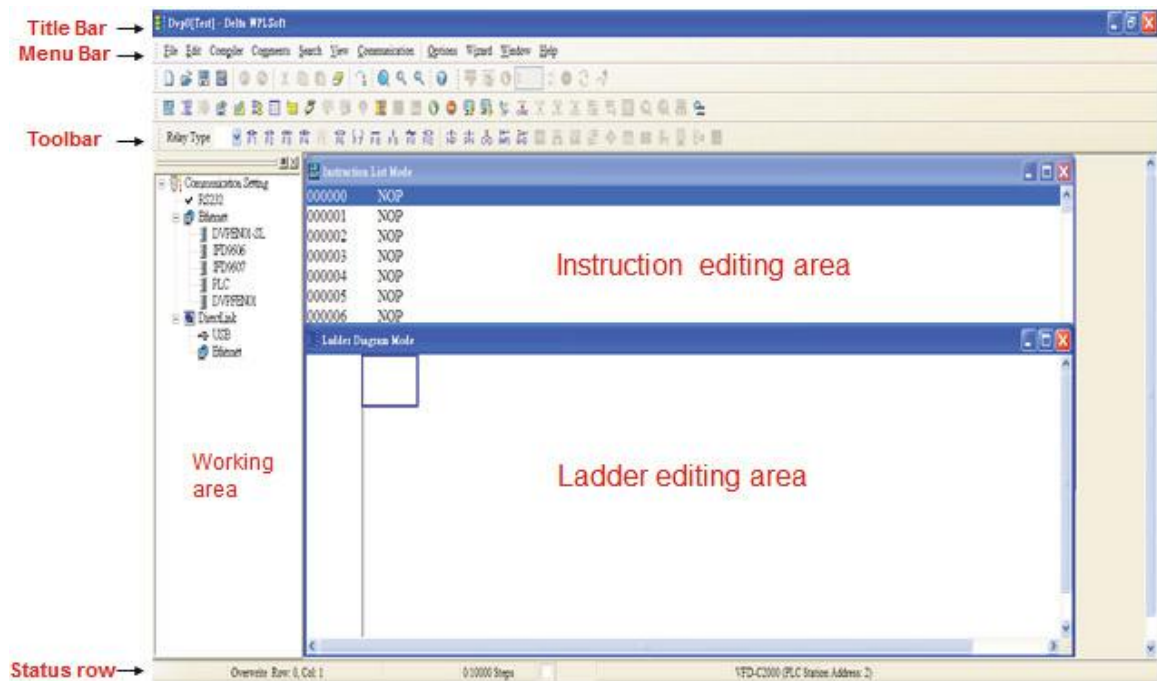

Figure 16-10
**NOTE** The next time you run WPLSoft, the program opens the last project file you edited. Figure 16-10 describes the main parts of the WPLSoft editing window.